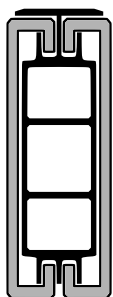

Fig. 5
1. Assemble the rails by sliding two Trex rail covers over each side of the rail fence insert (see Fig. 5).